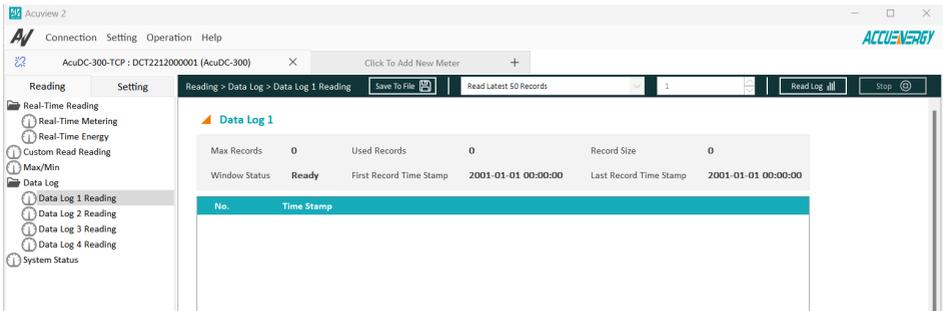

Figure 4-24 The Data Log Reading Window
**Read Log:** Once the data log settings are configured, click on **Read Log** button from the upper right corner of the window, and the data will begin to populate. The time taken for data population will vary depending on the number of records selected to read. The data will be displayed in a tabular format, allowing users to scroll through the data. Figure 4-24 shows the retrieved data.